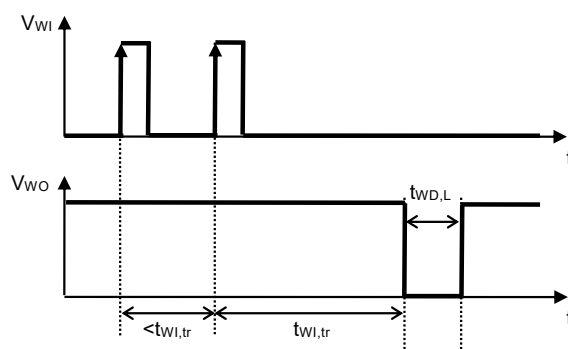

Figure 9 Watchdog Trigger Time
*1. The time when the WO pin continues "L" after the watchdog timer detects a time-out (Refer to **Figure 9**). This value changes according to C_{DLY} .
*2. The time from when the watchdog timer initiates the detection of a trigger signal to when a time-out is detected and the WO pin output changes to "L" (Refer to **Figure 9**). This value changes according to C_{DLY} .